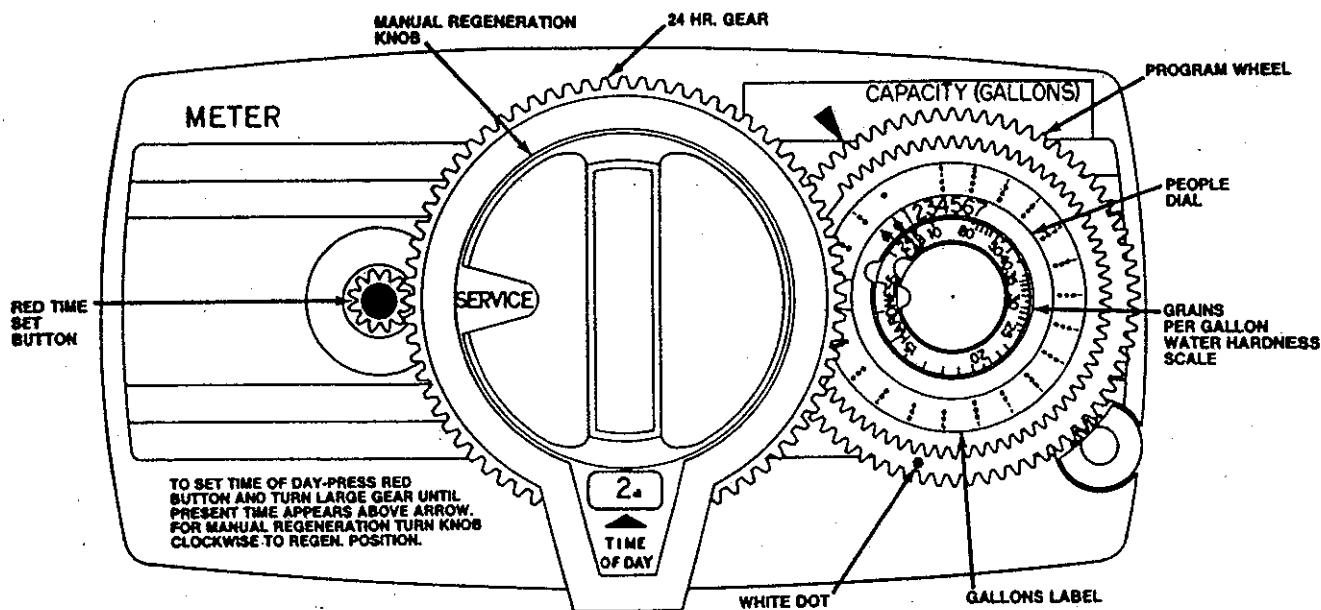

Figure 1
1. Remove control valve cover or cabinet lid to access control panel. (See Figure 1.)
2. The control valve **must be started in the SERVICE position!** The word SERVICE is imprinted in the notch on the manual regeneration knob. (See Figure 1.) If needed, rotate the manual regeneration knob CLOCKWISE to this position.
1. Locate the program wheel just to the right of the manual regeneration knob. (See Figure 1.)
2. Rotate program wheel until the white dot located on the outermost gear is aligned with the capacity (gallons) arrow on the control panel. (See Figure 1.)
4. Lift out the "people" dial and rotate it so that the number of people in the family is aligned with the compensated hardness in grains per gallon. The capacity arrow will now be aligned to the gallons of water that will be used between each regeneration as shown on the gallons label located outside the "people" dial. (See Figure 1.) If preferred, the unit can be set by gallons using this procedure. To calculate gallons, divide the grain capacity of the unit by the compensated hardness level. It is then advisable to subtract one day of water usage to provide a reserve. This setting will assume ample soft water for the family and automatically set a reserve capacity into the system.
1. Depress the red button on left side of valve control panel. (See Figure 1.)